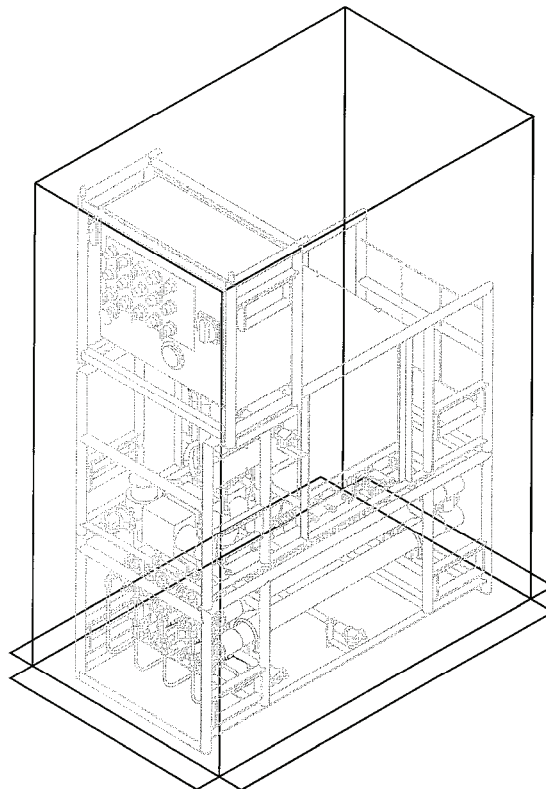

Figure 3. Control, Chemical Injection, and RO Modules with Contamination Avoidance Cover.
5. The combination of the control module, chemical injection/cleaning module, and Reverse Osmosis (RO) element module share a CAC. See Figure 3.